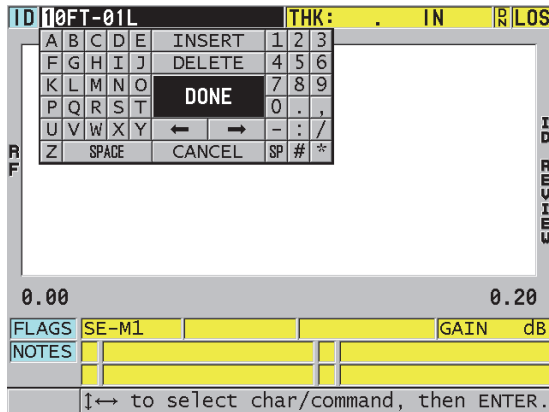

Figure 11-28 Editing the ID # edit mode
4. Press **[ID#]** again, and edit the ID value (see Figure 11-28 on page 220).